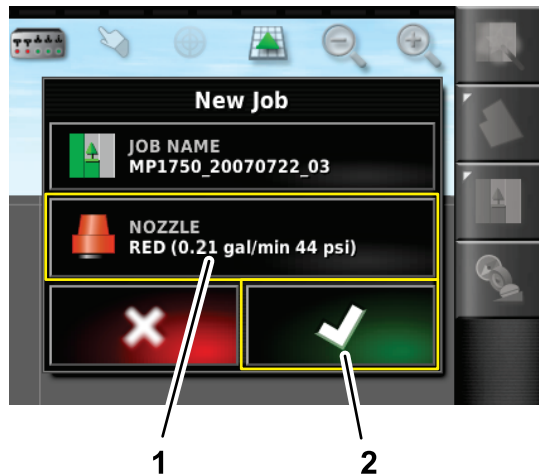

Figure 152
1. In the new job menu, press the nozzle icon (Figure 152).
3. Press the confirm icon (Figure 152).